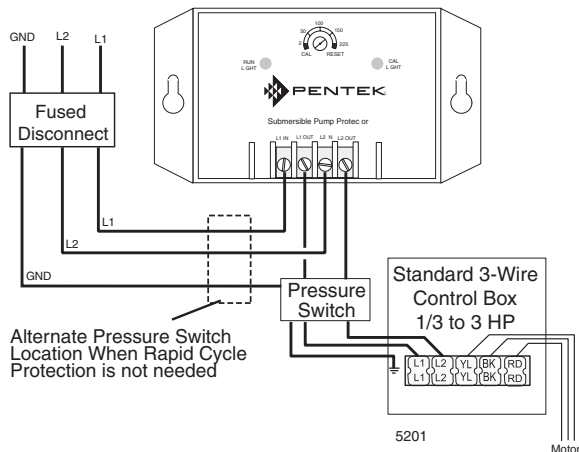

Figure 10-1: SPP233 Standard Control Box Connection
1. Connect one line from the fused disconnect to the Motor protector's "L1 IN" terminal. Run a wire from the "L1 OUT" terminal to the other in-line controls such as a pressure or float switch. See Figure 10-1.
2. Connect the other line from the fused disconnect to the Motor protector's "L2 IN" terminal. Run a wire from the "L2 OUT" terminal to the other in-line controls such as pressure or float switches. See Figure 10-1.